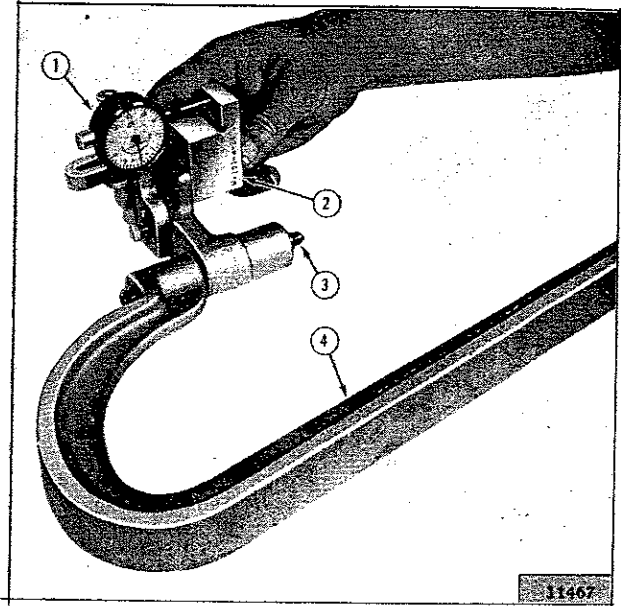

FIG. N-23—SETTING PINION GAUGE FOR MODEL 27AF AXLE DIFFERENTIAL.
- f. Place the gauge block against the machined surface of the dial indicator mount, as shown in Fig. N-23.